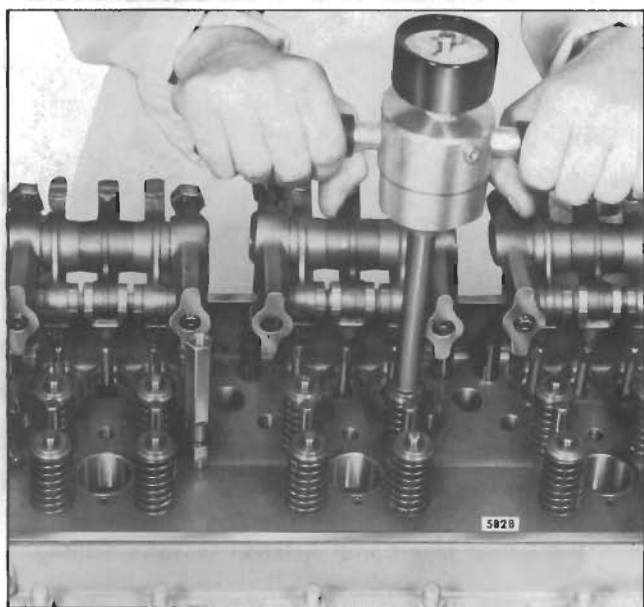

Fig. 15 - Checking Pressure Required to Open the Exhaust Valve in Cylinder Head
11. With the exhaust valves installed in the cylinder head, use spring checking gage J 25076-01 and note the gage reading the moment the exhaust valve starts to open (Fig. 15). The minimum allowable pressure required to start to open the exhaust valve must not be less than 20 pounds (89 N).